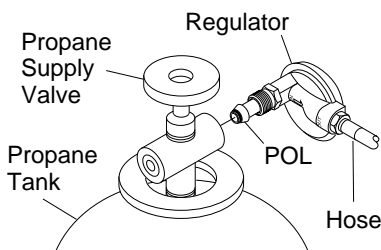

Figure 3 - Regulator Position
**IMPORTANT:** Position regulator so that hose leaving the regulator is in a horizontal position (see Figure 3). This places the regulator vent in the proper position to protect it from the weather.